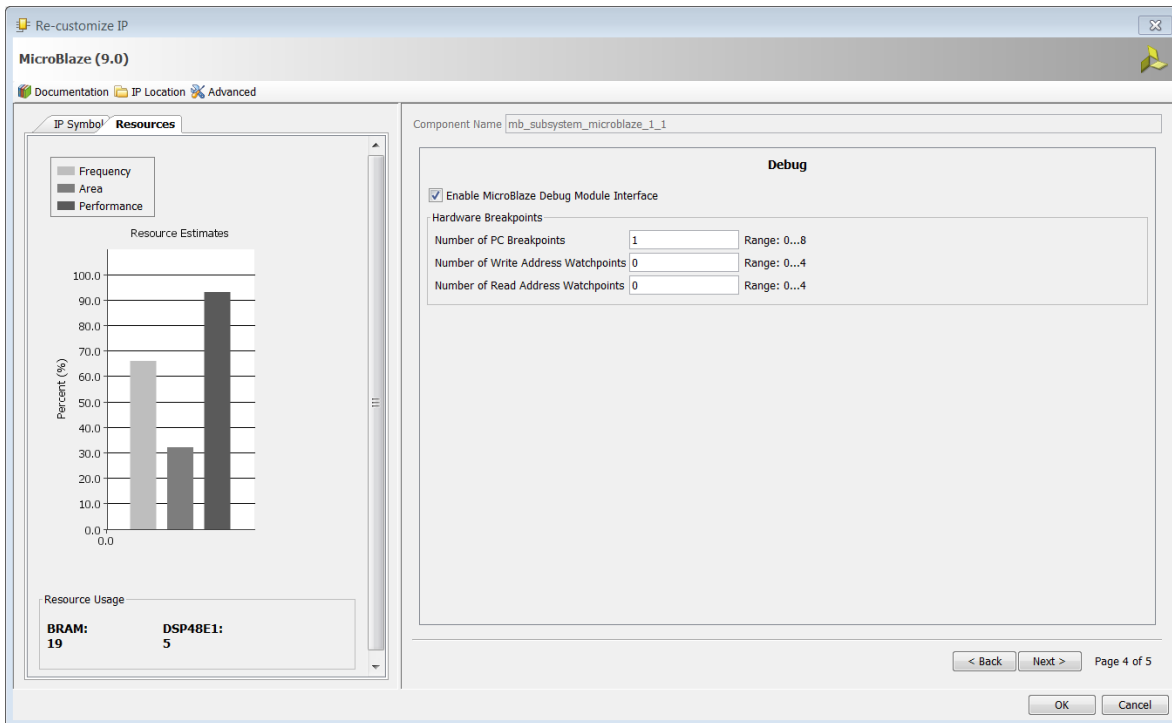

Figure 86: Page 4: Re-customize IP
- On Page 4 of the Re-customize IP dialog box, ensure that the MicroBlaze Debug Module is enabled, and click Next (Figure 86).